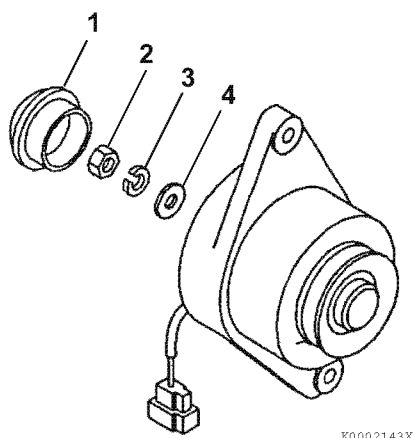

Figure 12-28
6. Reinstall the flat washer (4, **Figure 12-28**), lock washer (3, **Figure 12-28**), and nut (2, **Figure 12-28**). Tighten the nut to the specified torque.
7. Reinstall the rear cap (1, **Figure 12-28**).